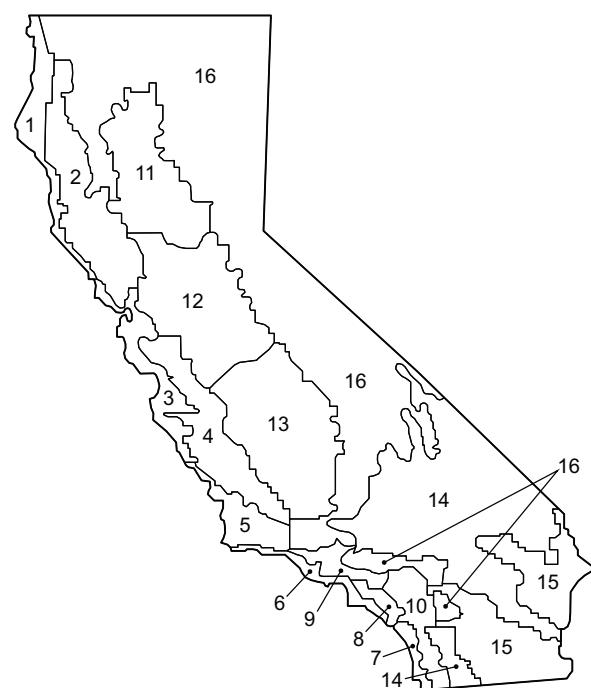

Fig. 91 — California Title 24 Zones
- Refer to Fig. 91 for map of California Title 24 zones.